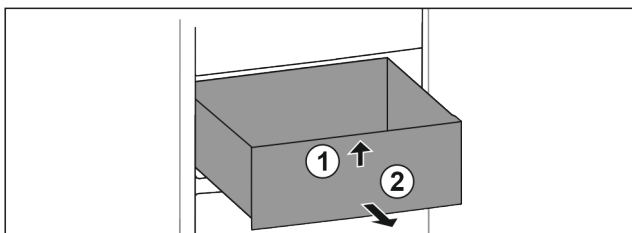

Fig. 96
- ▶ Lift drawer at the front. Fig. 96 (1)
- ▶ Remove drawer to the front. Fig. 96 (2)